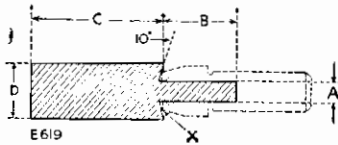

Fig. A-421—Fitting tool, inlet valve guide
4. In order that the new valve guides may be replaced it is necessary to machine two drifts to the dimensions illustrated in Fig. A-421. It is of utmost importance that the 10° angle is maintained, failure to do so will result in damage to the valve guide and possible collapse of the seal groove.